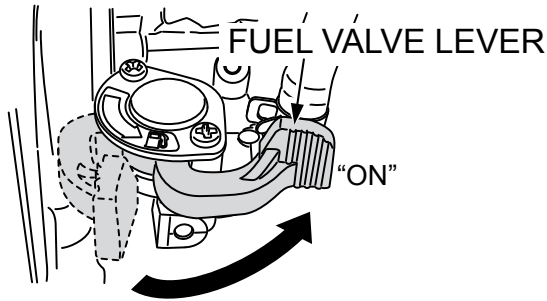

Figure 10. Fuel Valve Lever
1. Place the fuel valve lever (Figure 10) in the **ON** position.
2. Place the Engine **ON/OFF** switch (Figure 10) in the **OFF** position.